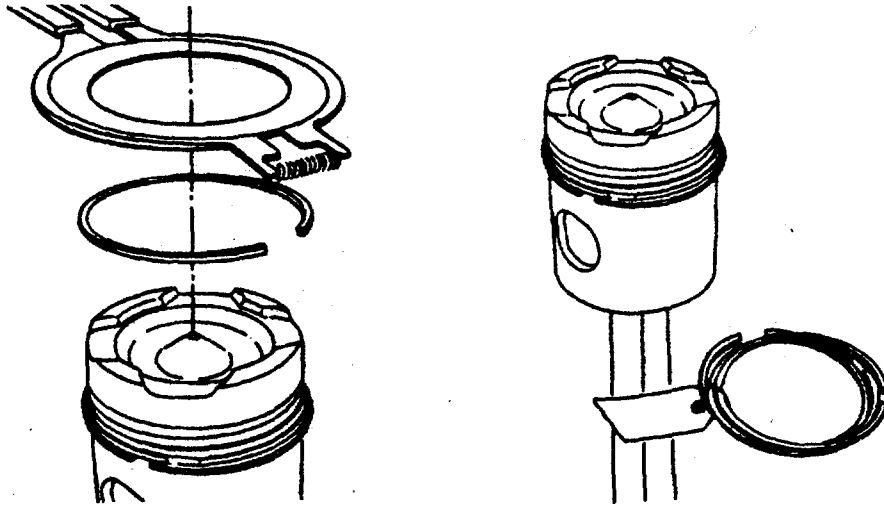

FIGURE 4-29. *Removing Piston Rings.*
- (4) Remove the (dowel) pins (12) from the connecting rods(1).
- b. Use the piston ring expander to remove the piston rings (Figure 4-29).